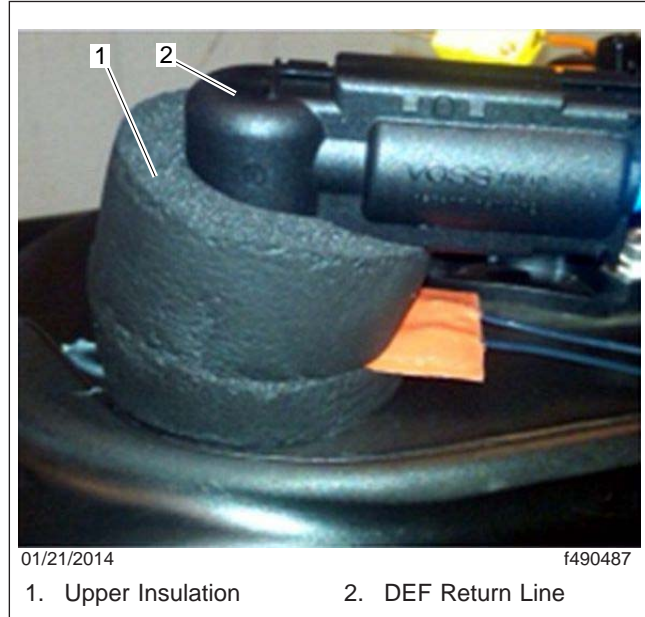

Fig. 3, Installing the Upper Half of the Insulation
11. Position the reflective sleeve over the fitting and insulation, then secure it with zip ties as needed. See Fig.3.